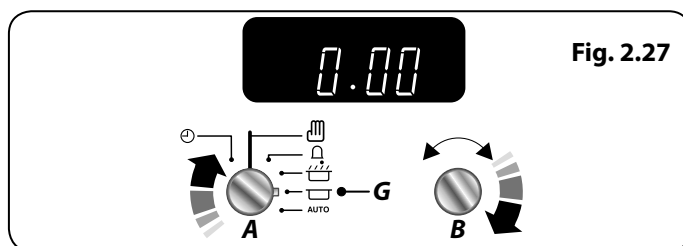

Fig. 2.27
1. Turn the **Timer (A)** knob to the **Stop Time (G)** setting (**Fig. 2.27**).
2. Turn the **Adjusting (B)** knob clockwise, the display will show the current time of day (**Fig. 2.27**).